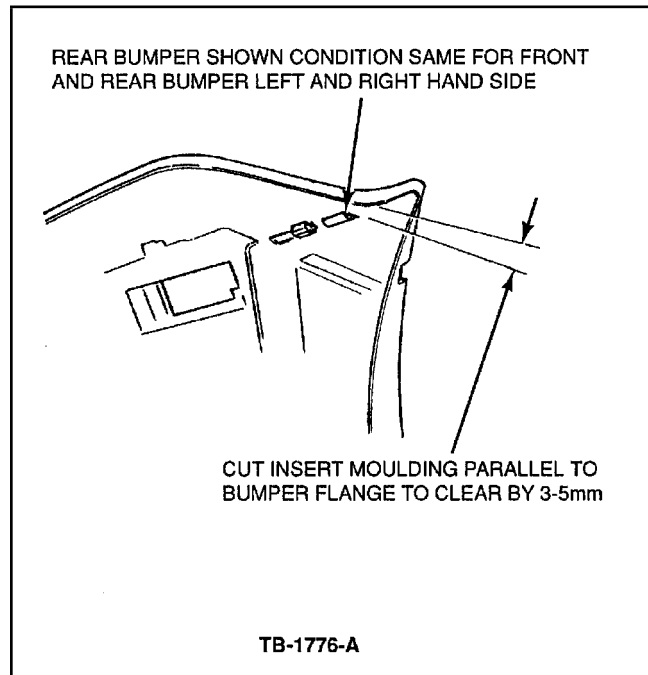

Figure 2 - Article 90-22-4
- b. If the moulding is in contact with the flange, trim the moulding at an angle to provide clearance, Figure 2.